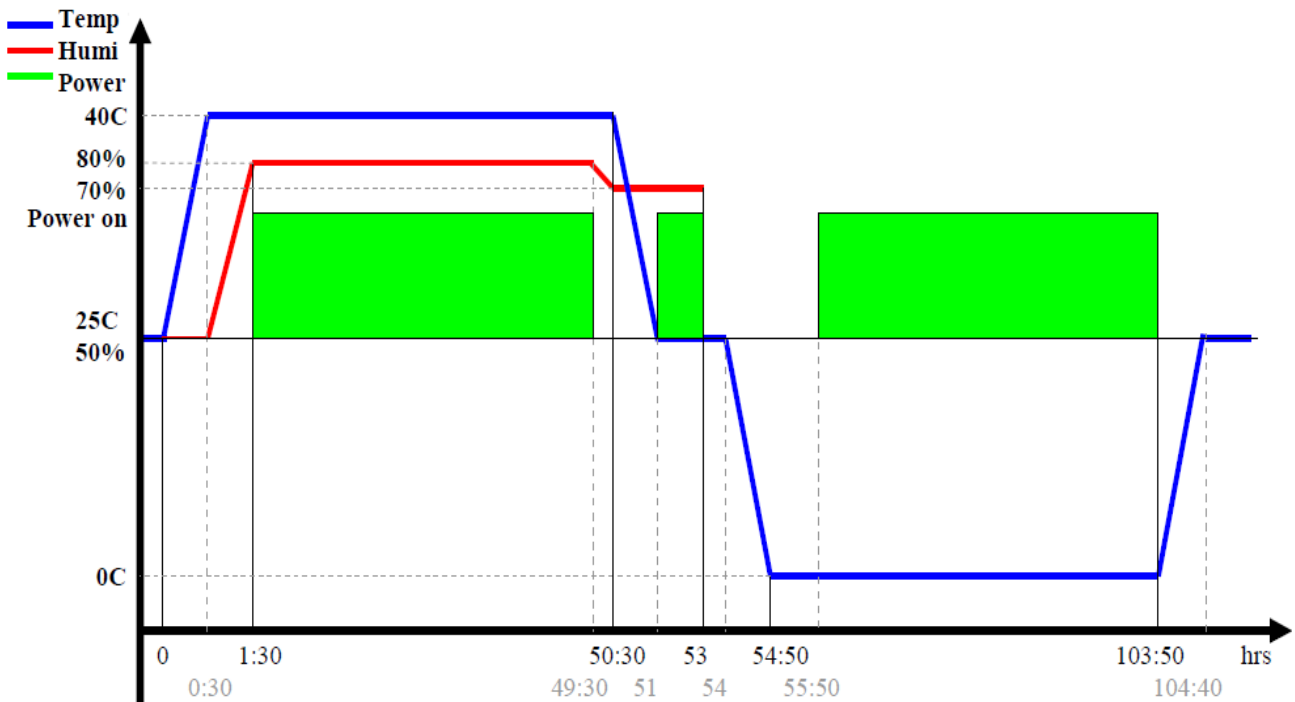

Figure 1.02.1.01 High / Low temperature operating test curve
4. Test Environment Curve Figure 1.02.1.01